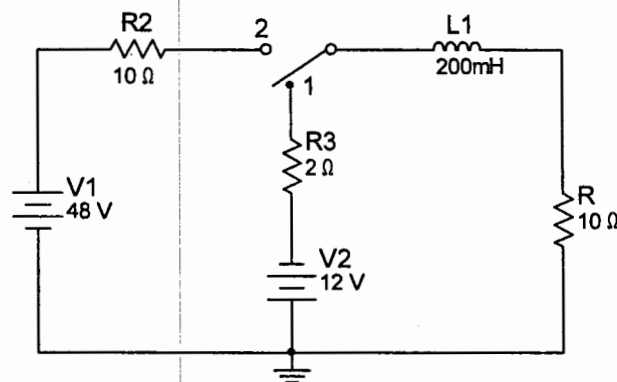

Fig. 4
- (b) In the circuit of Fig. 4, the switch is moved from position 1 to position 2 at  $t = 0$ . Solve for the current through the inductor  $L1$  for  $t > 0$ . Assume steady state conditions exist at  $t = 0^-$ .